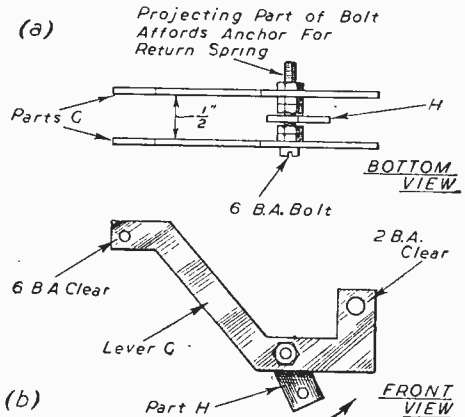

Fig. 12.—How the two parts of lever G are bolted together.
12. Parts G may now be assembled. (See Fig. 12). They are held together with one screw only, mounted through the central "6 B.A. clear" hole. Part H, it will be noticed, is pivoted at the centre of this mounting. It must be free to move around the 6 B.A. screw as axis. The 6 B.A. screw should have a 1 in. shank, that part projecting being used later to hold one end of the return spring.